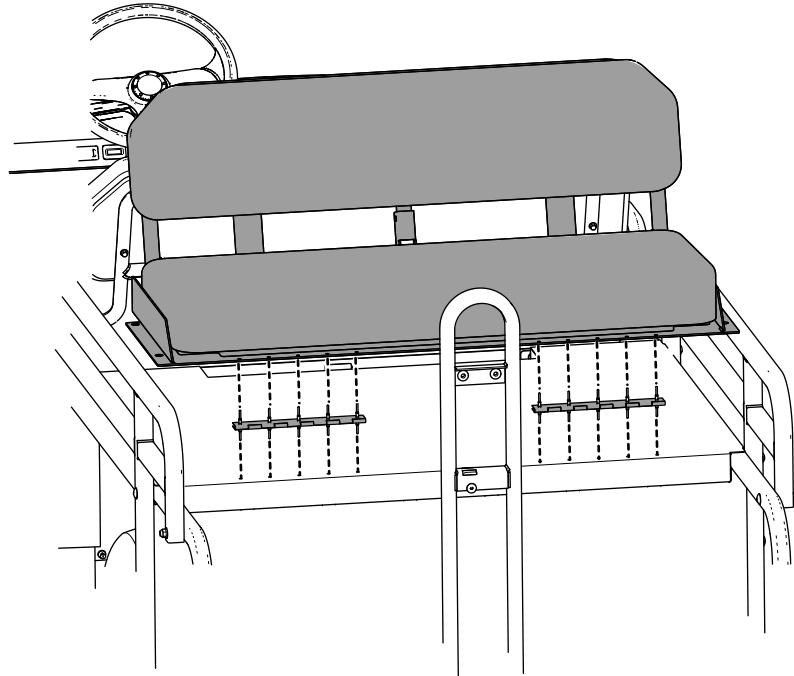

**Figure 10**
9. Install 4 rubber grommets on the edges of the seat base as shown in Figure 10.